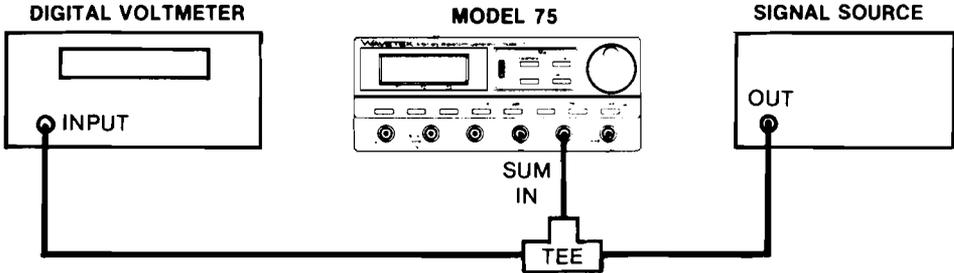

Figure 5-6. SUM IN Verification Equipment Connection
1. Interconnect the Model 75 and test equipment as shown in figure 5-6.